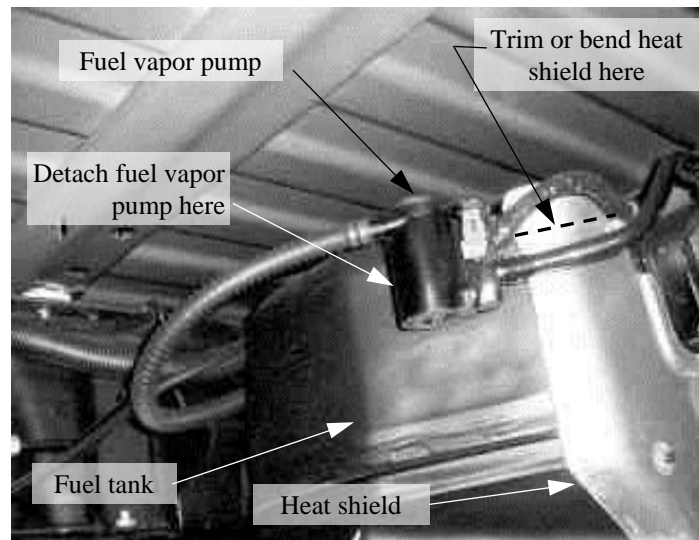

Figure 2
2. On short bed models, cut the heat shield on the gas tank or bend the top edge about 1" down to make room for the hitch. See Figure 2. On models with gasoline engines, temporarily detach the fuel vapor pump from the back of the gas tank.